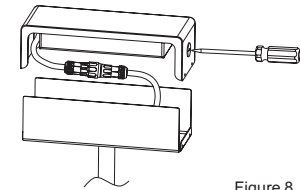

Figure 8
8. Remove the holes of the driver box if necessary. (Figure 8)